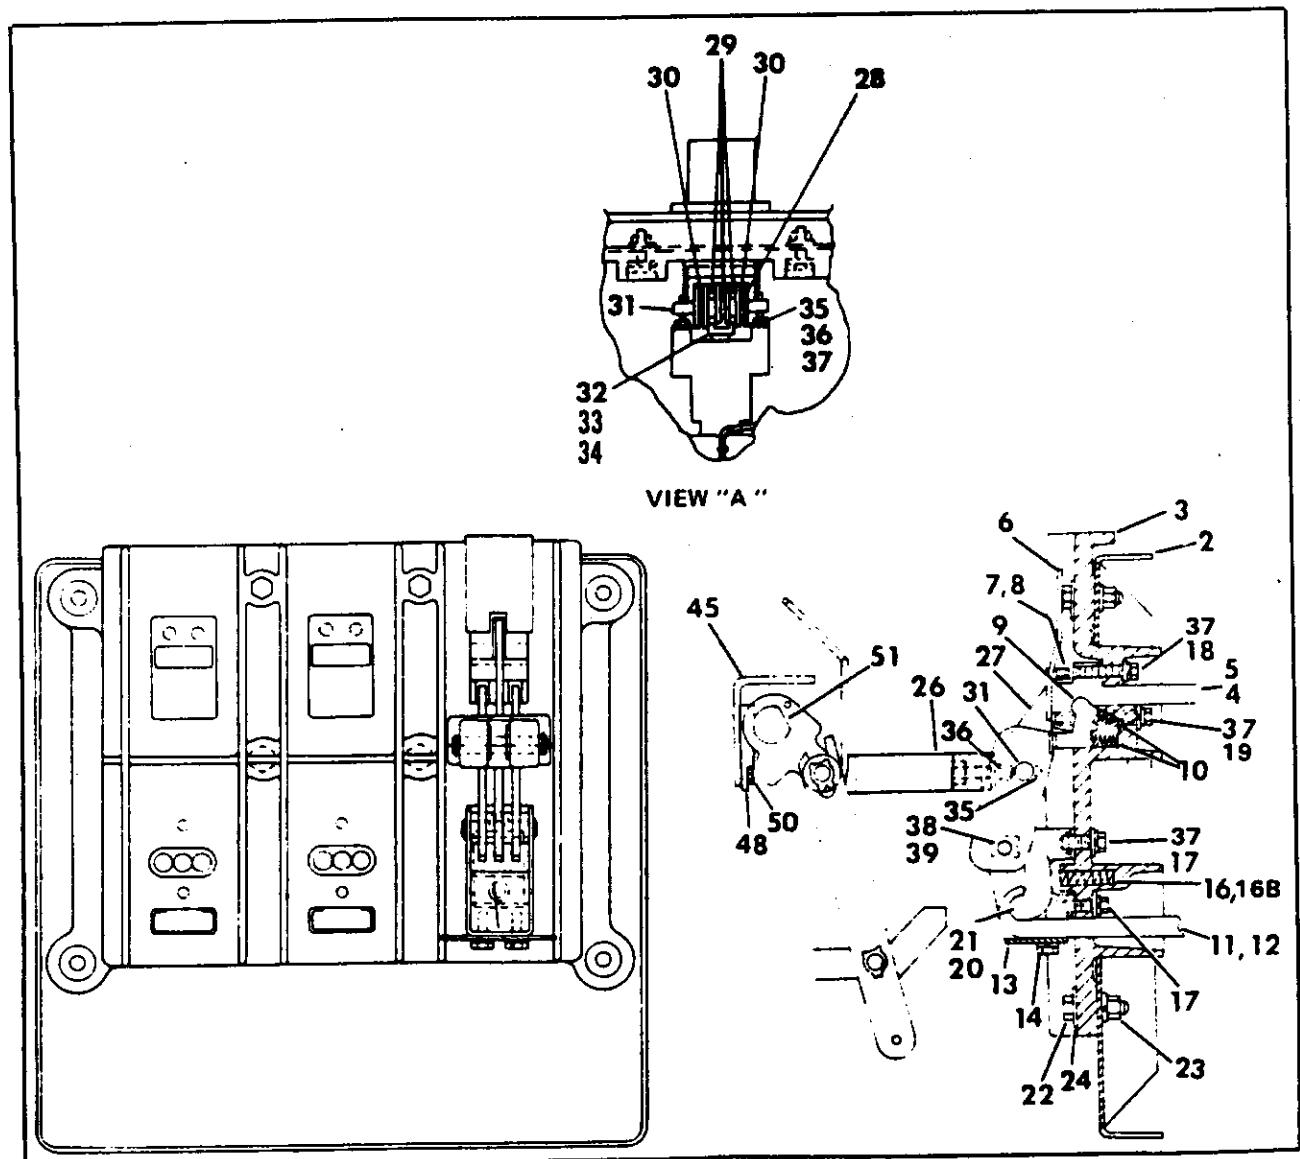

Figure 8. Contact Assembly
Compression of contact fingers (9) must be between .093" and .125" (2.4-3.2 mm). This is the difference in the measurement from the breaker base to the tip of the finger contact surface when the breaker is open. Measure in the same place when the breaker is closed. This is checked with a normal closing operation—not maintenance closing. Adjustment is provided by positioning screws (35) after loosening nuts (36). Counterclockwise rotation of screws (35) increases compression. Care should be taken to retighten nuts (36) after adjustment. If it is desired to check contact pressure, a push-type spring scale can be used to compress contact fingers (9) with breaker open. Contact pressure should be between 20 and 30 pounds (9.1-13.6 kg) on each finger. (See Figure 8.)
when checked with a pull-type spring scale at the base of the arcing contact tip insert with the circuit breaker contacts closed. Measure each blade separately. (See Figure 8.)
The stationary arcing contact is a part of connector (4) and may be replaced by proceeding as above. In this case, screws (18) must be removed. However, to provide clearance for removal of connector (4), first insert a 3/16" (4.7 mm) diameter rod at least 2" (50 mm) long through the opening in support (13). It may be necessary to compress contact (21) opposite arcing contact (27), in order to insert the rod. This will hold hinge contact fingers (21) in position to permit removal of pin (38). After removal of pin (38), main contact (28), and arcing contact (27) can be positioned so that connector (5) can be removed. (See Figure 8.)
Remove top screw (17) from support (13), and replace it with a 1/4-20 screw at least 1-1/2" long. Remove lower screws and then gradually back off the 1-1/2" screw to relieve the loading from springs (16). The hinge contact fingers can now be removed. To provide easier access to the hinge contact fingers, pin (38) may be removed after the loading is relieved from springs (16). (See Figure 8.)
Remove two screws on each side of lower connector. The complete movable contact assembly may now be brought to the bench. The location of spacers should be noted, if necessary. (See Figure 8.)